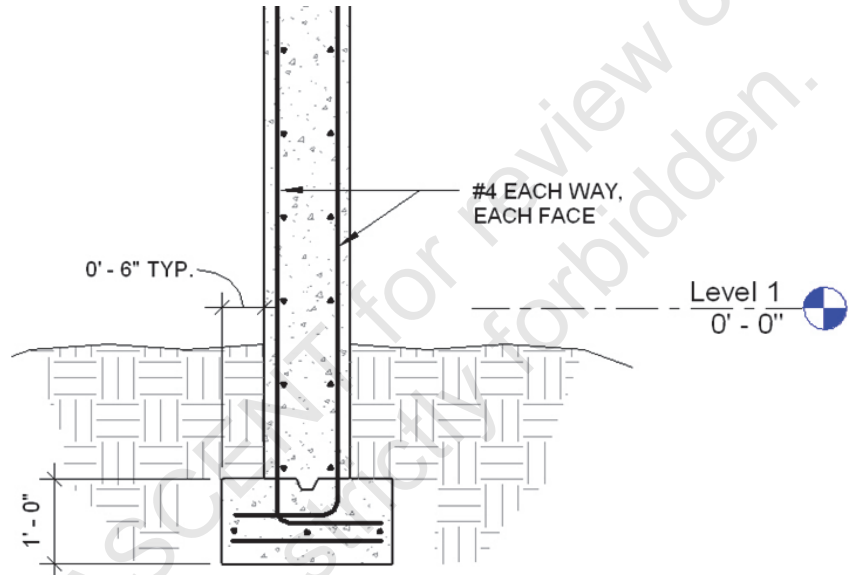

Figure 1–56
Wall footings for bearing and retaining are hosted by the walls. Once a footing is in place, you can add reinforcement, as shown in Figure 1–56. With the advantages of having a true foundation in place, you can accurately tag and schedule the footings.
- You can apply two types of continuous footing systems, as shown in Figure 1–57. You must have walls in your model to add a footing system: